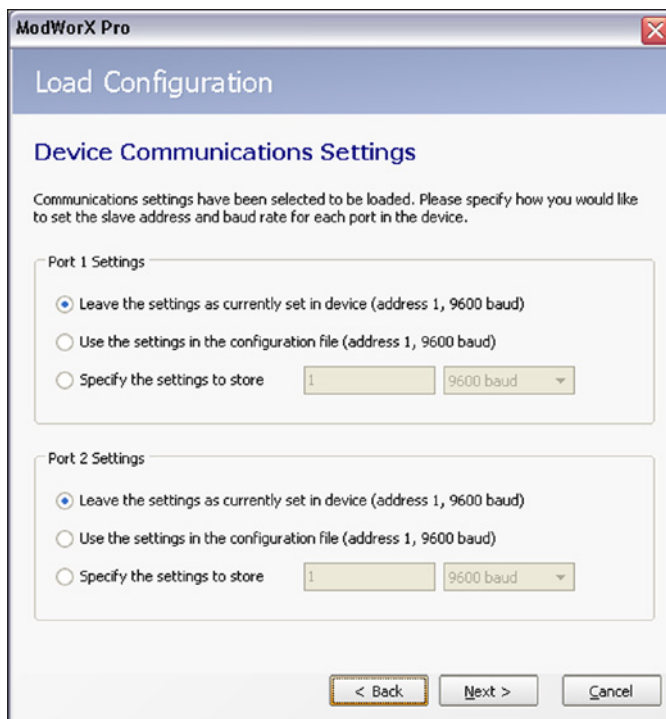

Figure A.5
6. Click *Next*. If Configuration settings were selected for upload, a Device Communications Settings screen will appear (Figure A.5). Enter slave address and baud rate settings for Ports 1 and 2 of the device being configured. If only calibration settings, gas composition settings, or custom settings are being uploaded, the Device Communications Settings screen will not appear.